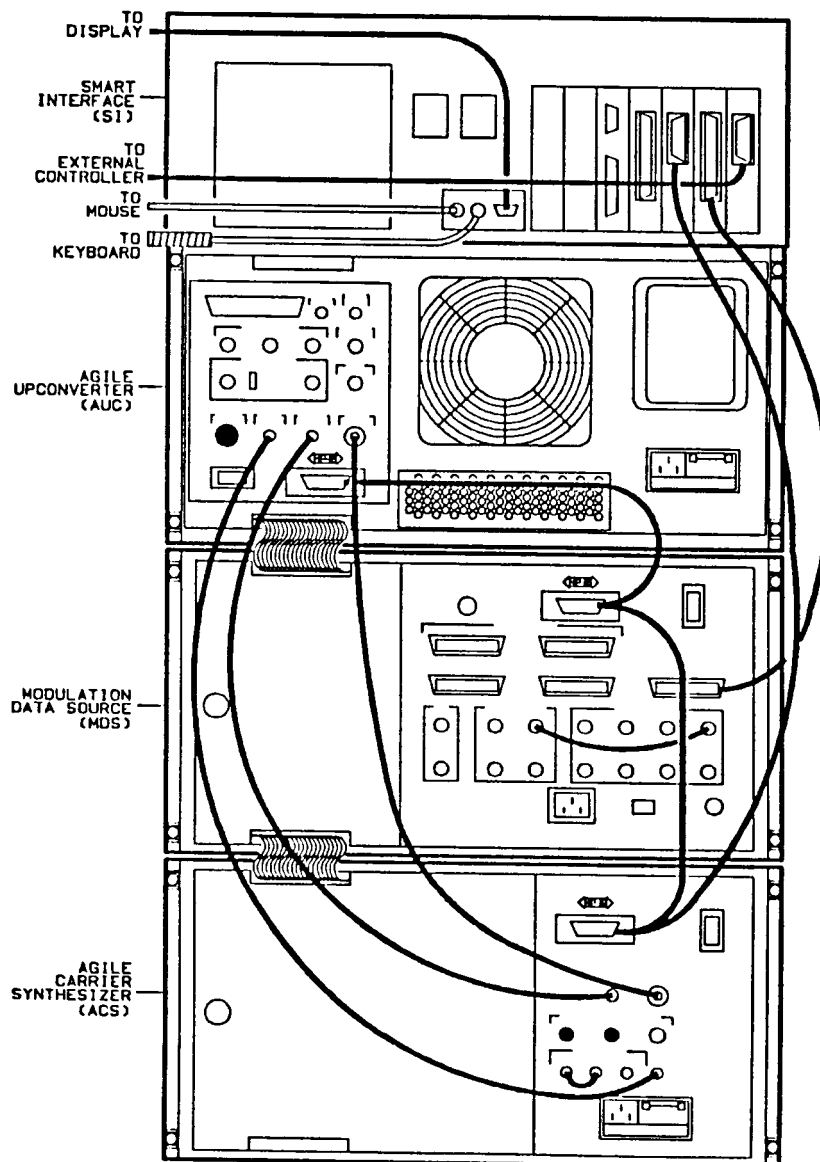

Figure 2. System Interconnects
1. Set the Smart Interface (SI) line switch to the off position.
4. Open the system cabinet rear door and disconnect the cables that are attached to the Smart Interface rear panel. Refer to figure 2 for system interconnects.